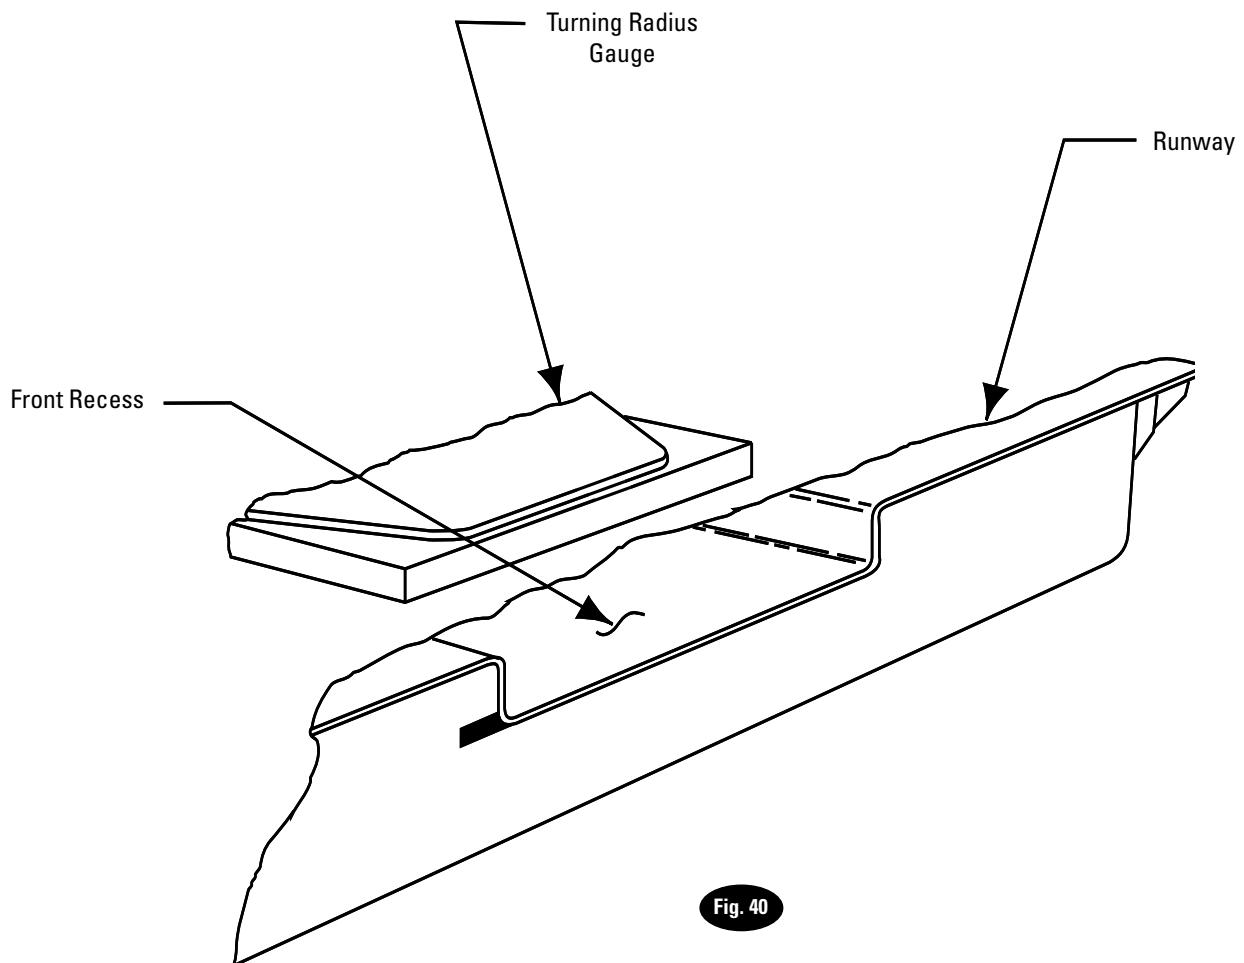

Fig. 40
- C. Place the turning radius gauges in the recesses of both runways with the pointer and lock pin to the outside of lift, Fig. 40. Position each gauge against the rear guide bars. Then position the front guide bar just against the front edge of the turning radius gauge. Repeat on other runway. (A tolerance of 1/16" (1.6mm), end-to-end, would be acceptable.) Tighten the mounting bolts securely. The turning radius gauges are now square and in proper alignment with each other.